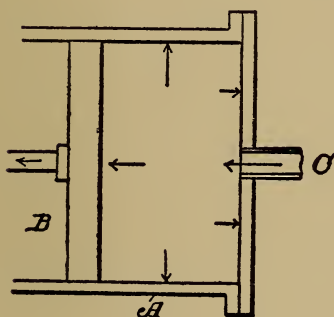

Fig. 131.
Fig. 131 shows a cylinder (A), a piston (B) and a steam inlet port (C), in which is indicated how